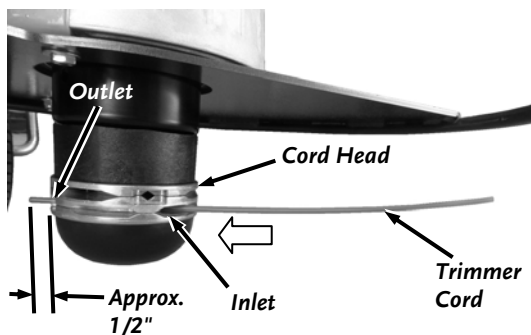

Figure 20
- Insert the end of a Trimmer Cord into the inlet hole (larger slotted cutout) push it in until the end protrudes out the other side approximately 1/2" (**Figure 20**).